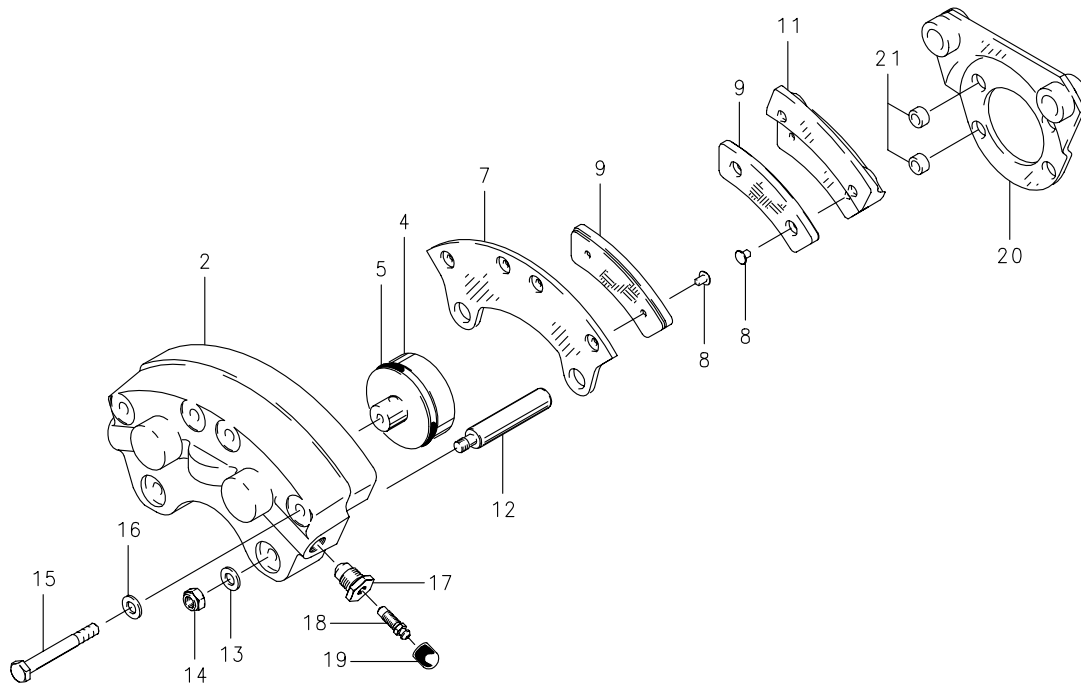

Figure 3, 30-52 Brake Assembly Exploded View
- (2) For Subassembly and Parts identification: See Figure 3; 30-52 IPL